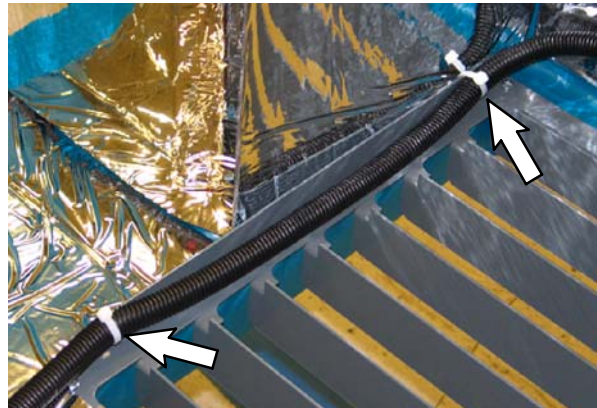

FIG. 7
18. Use two cable ties to secure the alarm / strobe harness (21) to the rear louvre panel on the main cover. Refer to Fig. 7.